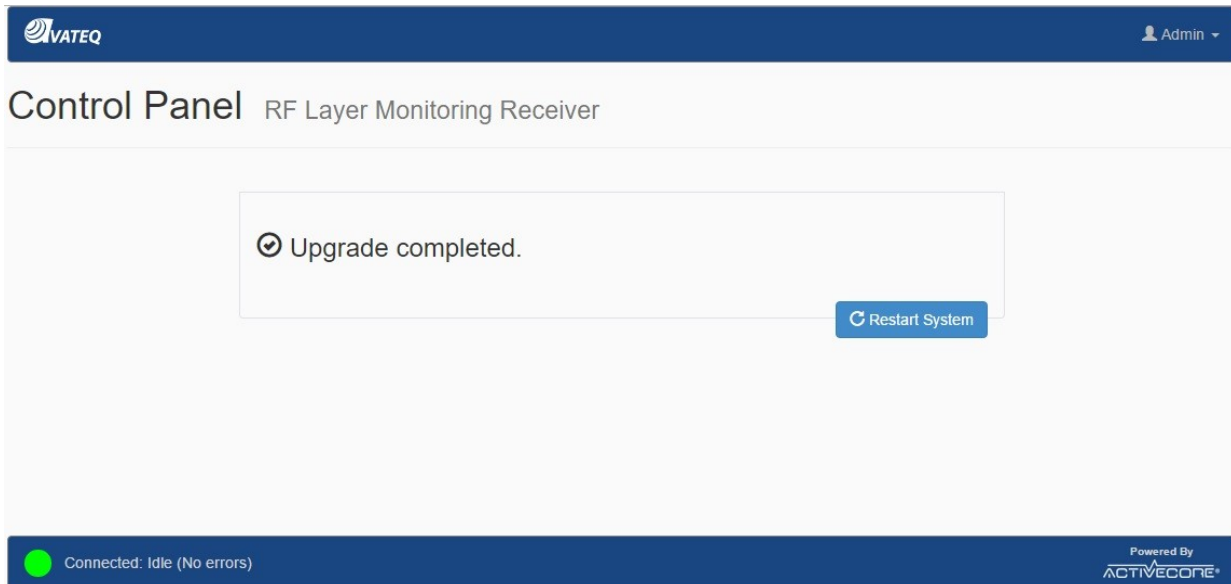

Figure 19. Upgrade Completion
4. Wait for the upgrade completion notification and a prompt to restart the unit (Figure 19).